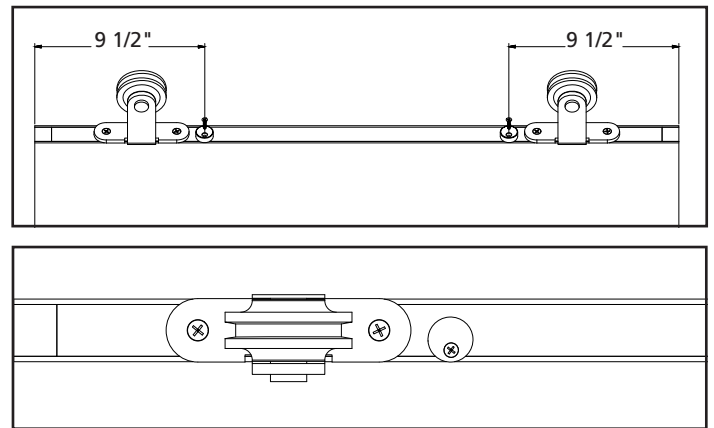

Figure 4. Pre-drilling Anti-Jump Disk
1. Position the disks as seen in Figure 4
4. Secure with (2) #8 X 3/4" wood screws (keep anti-jump disk loose enough for future rotation; to be tightened in step 4)